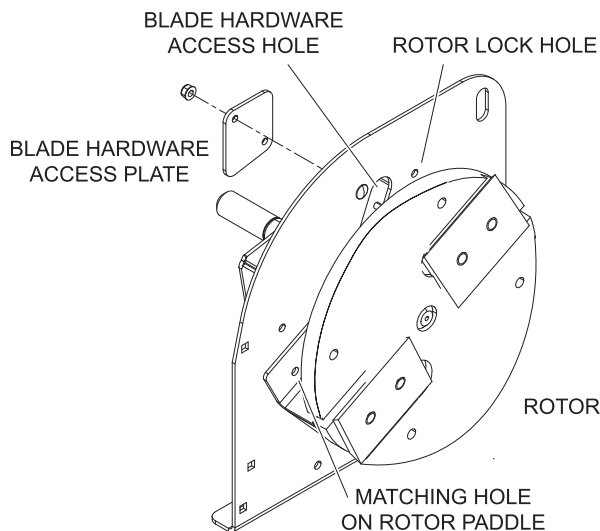

Figure 5.1, Rotor Lock
When working on the rotor assembly, use the lock mechanism at all times (Figure 5.1). Follow the steps below to install the rotor lock:
2. Rotate the chipper rotor until the hole on the chipper paddle is aligned with the hole on the chipper housing (Figure 5.1).